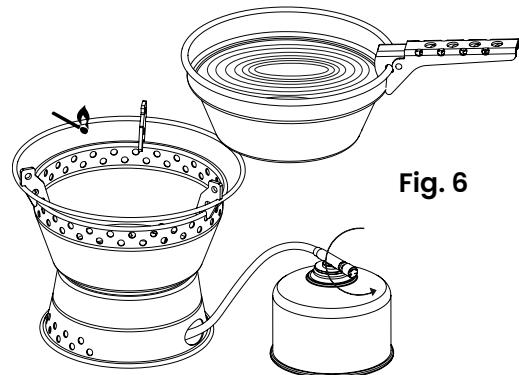

Fig. 6
- Open the gas by turning the Valve Control Knob (11) anti-clockwise approximately 1/4 cycle or more. Use a long match to light the Burner (6).
- Adjust the size of the flame by turning the Valve Control Knob (11).
- Use the Pot Gripper (12) to hold the rim of the pot and gently put onto the Pot Holder (4) to start the cooking (Fig.6).
- Always use the Pot Gripper (12) to move the pot. Never leave the Pot Gripper attached on the pot to be heated together in case burning your hand when holding it the next time.
- After use, ensure that the Valve (10) is fully shut by turning the Valve Control Knob (11) to the hand-tight end of clockwise.